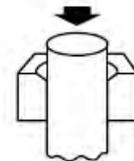

Fig. 2
5. Insert tubing between the segments of the die block that correspond to the size of the tubing to be flared. Allow tubing to protrude approximately 1/8" above die blocks before clamping. (See Fig. 2)